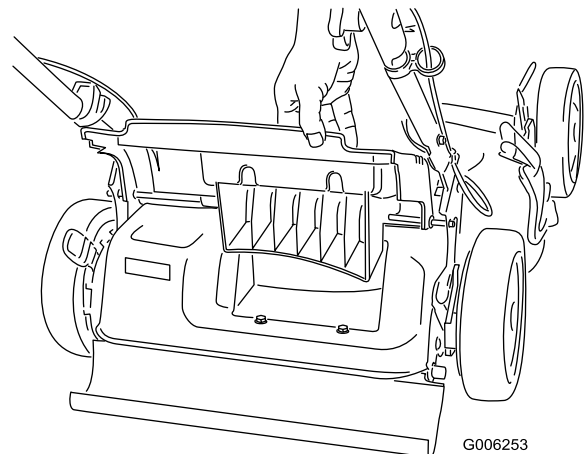

Figure 21
1. Raise and hold up the rear door (Figure 21).